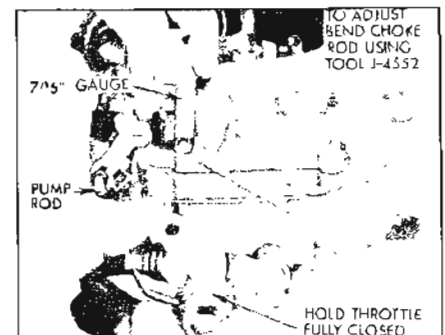

Figure 3-54—Pump Adjustment
3. Adjust Pump. Push fast idle cam aside and back out throttle stop screw until throttle valves seat in throttle bores. With pump rod in center hole, measure from air horn to top of plunger shaft with scale. Bend pump rod at lower angle as required to obtain $7/16$ " measurement using Tool J-4552. See Figure 3-54. Turn throttle stop screw in (from fully closed throttle position) $1/2$ turn which should provide an initial idle adjustment.